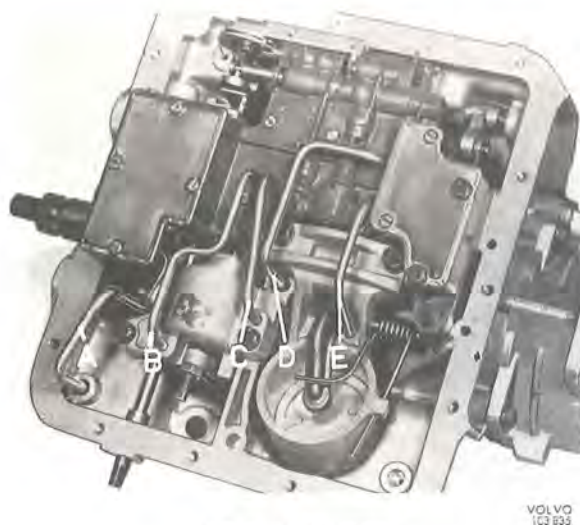

Fig. 4-79. Oil tubes
2. Release the bolts for the oil sump and remove the sump. Carefully remove the oil pipes (Fig. 4-79).
5. Fit the throttle cable to the cam. Mount the oil pipes as shown in Fig. 4-79. Check that the magnetic element lies in the oil sump and fit the sump. Use a new gasket. Coat the threads on the oil drain plug with sealing fluid 277961 and then fit the plug.
3. Unscrew the bolts for the oil pan and remove this. Lever out the oil tubes carefully as shown in Fig. 4-79.